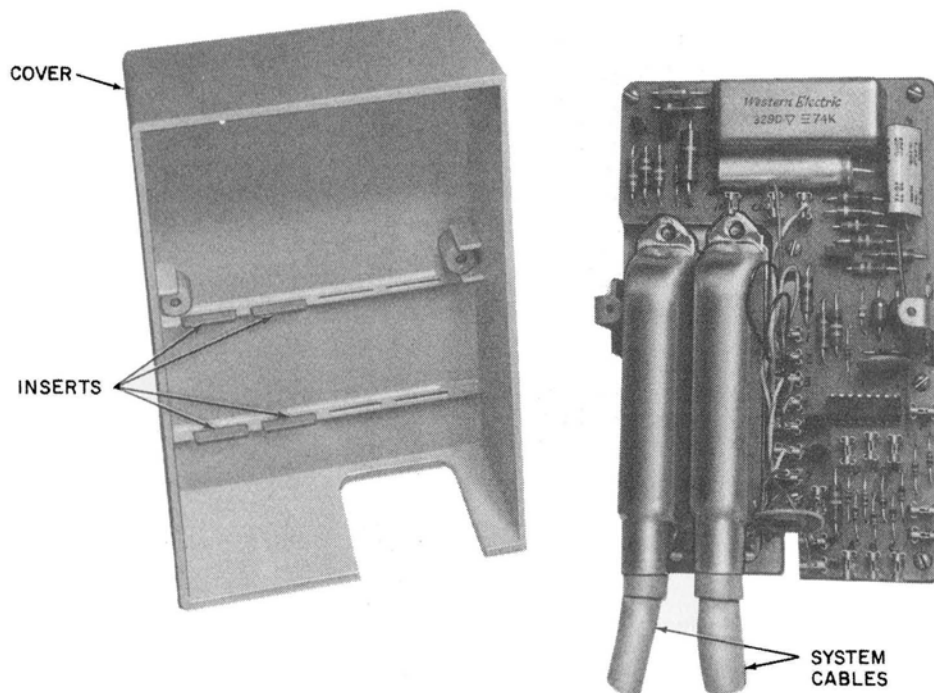

Fig. 18—26A Apparatus Unit With L-769856 Cover
(1) Remove the cover and mount the base assembly (Fig. 18 and 19) on the desired location (use appropriate fastener per BSP 080-720-105).
and 31) where it is stored; insert the lead in the IN terminal (Fig. 18 and 31).
- (2) Insert system cables (Fig. 18).
- (3) Position inserts (Fig. 18) inside cover to hold cables securely in place when cover is replaced.
- (4) Replace the cover.